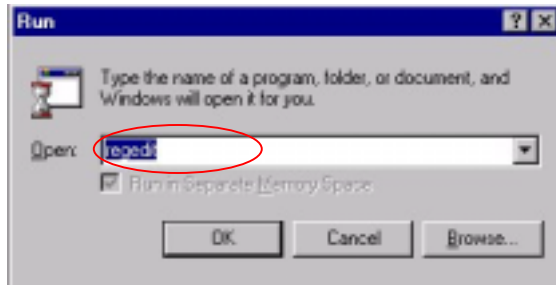

Figure 1-2 Type 'regedit' in Open Dialogue
2. Open the **Registry Editor** by typing '**regedit**' in the **Open** dialog box and click **OK**. This is shown in Figure 1-2: